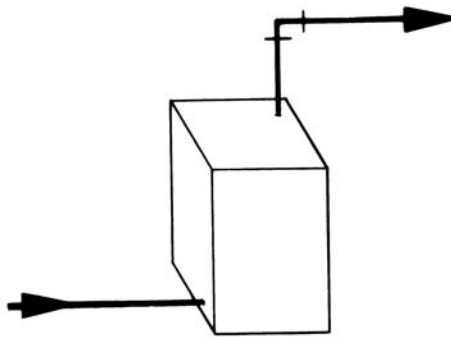

Figure 3.1
1. See Figure 3.1 for suggested piping to the boiler.
3. Plug all open tapplings in the boiler and fill with water. Apply approximately thirty (30) psi pressure. Check to make certain that all joints and fittings are water tight.